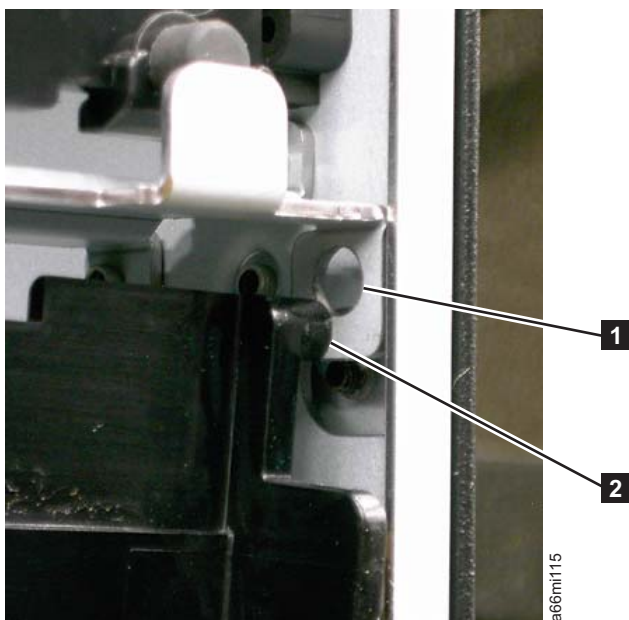

Figure 8-31. I/O Safety Flap Pivot Pin
5. Push the upper right hand corner of the bottom flap to the left to remove the pivot pin (**1** in Figure 8-31) from the pivot hole (**2** in Figure 8-31).